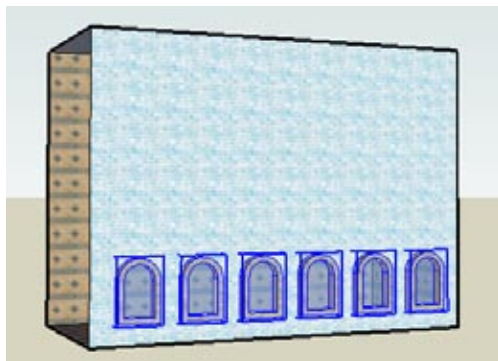

Figure 1-11
11. When your row of windows looks right, you can copy the entire row. The Move tool will actively select only one object at a time, so when you want to copy multiple objects, you must first preselect the objects. Activate Select and select all of the windows in the row, as shown in Figure 1-11. (Holding the Shift key enables you to select multiple objects.)